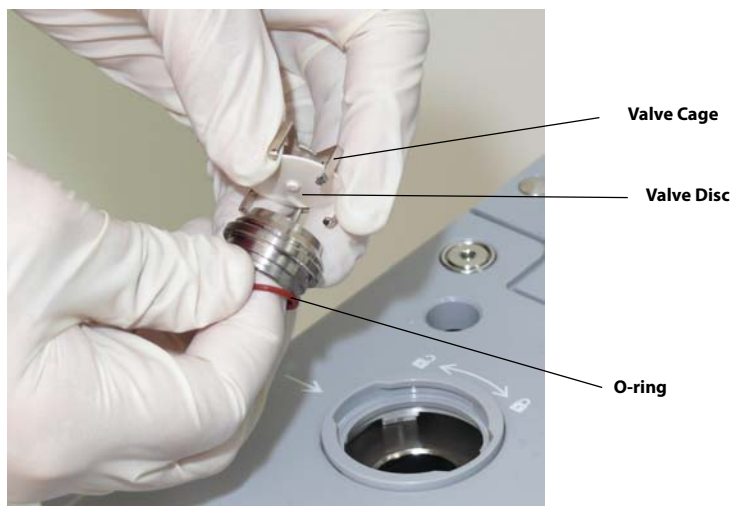

FIGURE 7-12 Valve Cage Removal
2. The valve cage will be removed in this step (see FIGURE 7-12). The six prongs of the valve cage have tabs that secure it in the valve assembly. While noting the previous **CAUTION**, use two hands to remove the valve cage by gently manipulating the prongs to release the tabs. As the valve cage is lifted away from the assembly, ensure that the valve disc does not fall out.
3. Remove the valve disc from the valve cage (see FIGURE 7-12).
4. Remove the O-ring from the bottom of the valve assembly (see FIGURE 7-12).